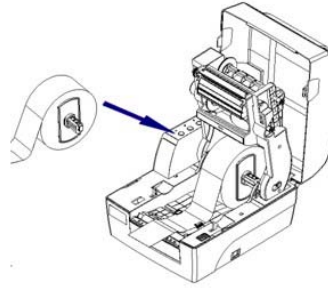

Figure 2.2.3
- 4) Place the paper roll on the paper holder into the paper cabinet, then pull out the front end of the paper and place it in the print path flatly, and hold the paper with the right and left paper guides (See figure 2.2.3);